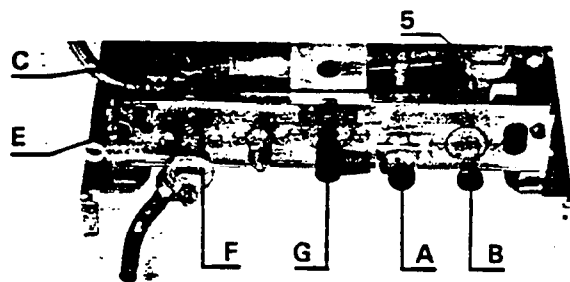

Fig. 58a
- c) Close heating flow and return valves (B & C) (see section 8.11 (fig. 58a)).
- d) Drain boiler down through safety valve (F) (see section 8.11 (fig. 58a)).
- e) Disconnect flow switch pipe union from pump volute (E).
- f) Disconnect manual vent tube (B) be carefull not to loose black washer.
- g) Pull out spring clip (A) with pliers.
- h) Disconnect pump connection at union (D) at pump outlet.